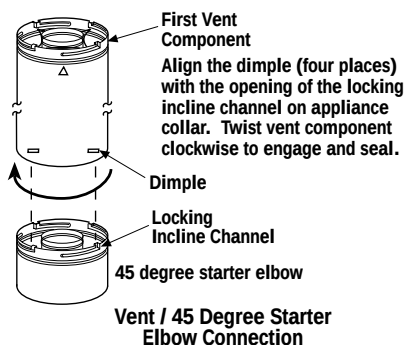

Figure 15
D. Attach vent components to 45 degree starter elbow - Secure Vent SV4.5 direct vent system components are unitized concentric pipe components featuring positive twist lock connections (see **Figure 15**).
To attach a vent component to the 45 degree starter elbow, align the dimpled end over the elbow, adjusting the radial alignment until the four locking dimples are aligned with the inlet of the four inclined channels on the collar (refer to **Figure 15**).
Secure Vent SV4.5 direct vent system components are unitized concentric pipe components featuring positive twist lock connection, (refer to **Figure 15 and 16 on page 12**). All of the appliances covered in this document are fitted with collars having locking inclined channels. The dimpled end of the vent components fit over the appliance collar to create the positive twist lock connection.
To attach a vent component to the the starter elbow, align the dimpled end over the collar, adjusting the radial alignment until the four locking dimples are aligned with the inlets of the four incline channels on the collar (refer to **Figure 15 on page 12**).